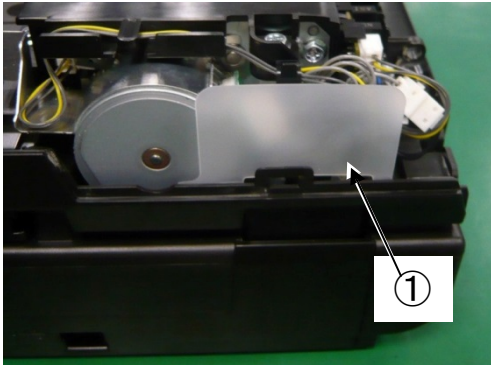
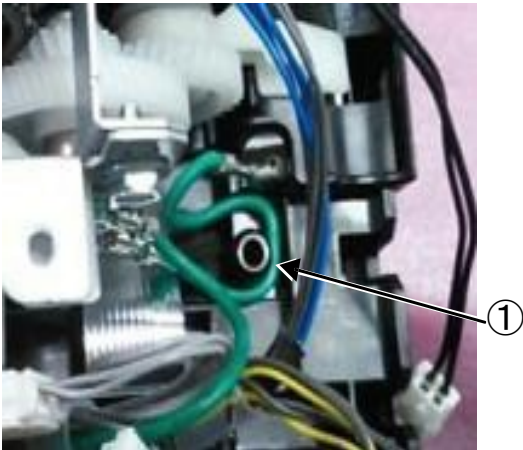

Figure 1
Figure 2
The photo shown in Figure 1 shows the protective sheet ①, but Figure 2 shows it without the protective sheet so that the cables are easily visible.